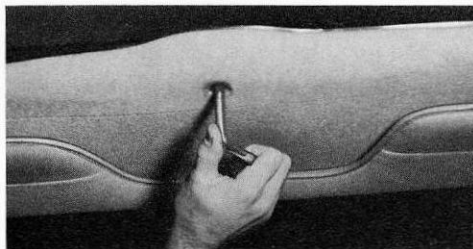

FIG. 2-26: CLOSING SUNROOF MANUALLY
- Insert the hexagonal end of the crank handle into socket in the winding gear screw and rotate crank handle counterclockwise to remove the screw, Fig. 2-26.